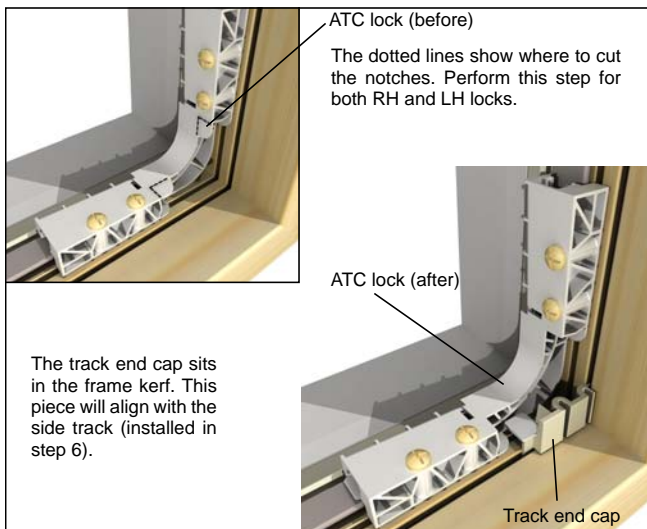

Figure 4 Notch the ATC locks if needed.
4. Some **Ultimate Awning** windows have Around the Corner (ATC) locks (Right Hand and Left Hand) which may need to be trimmed to fit the Retractable Screen track. Using a utility knife, trim the ATC locks (as shown) and apply the track end caps. See figure 4. This step is only applicable to the Ultimate Awning.